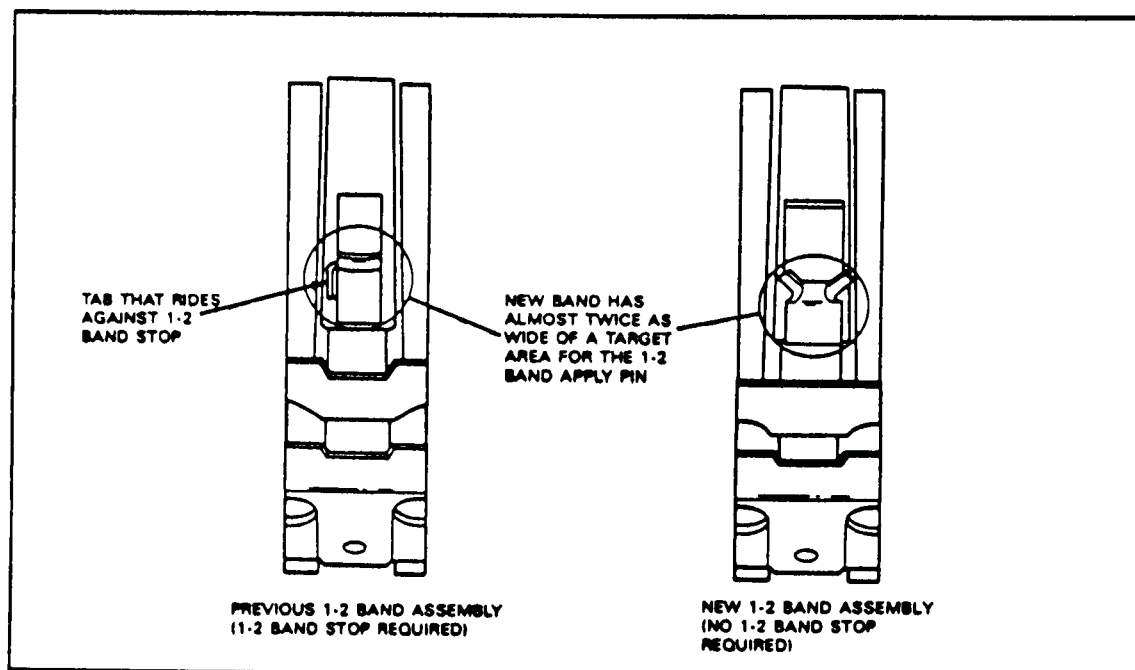

Figure 5
- (1) 1-2 BAND ASSEMBLY - The target area on the new 1-2 band, where the band apply pin engages, has been made wider and has "Wings" added to prevent the pin from ever missing the "Target" area (See Figure 5).